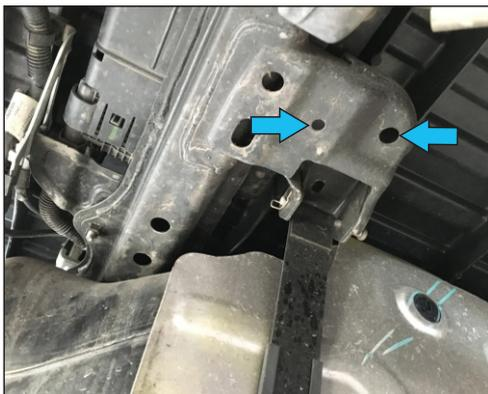

Fig. 5
5. Place Insert Nuts M8 (pos.I) in frame rail (Fig.5).